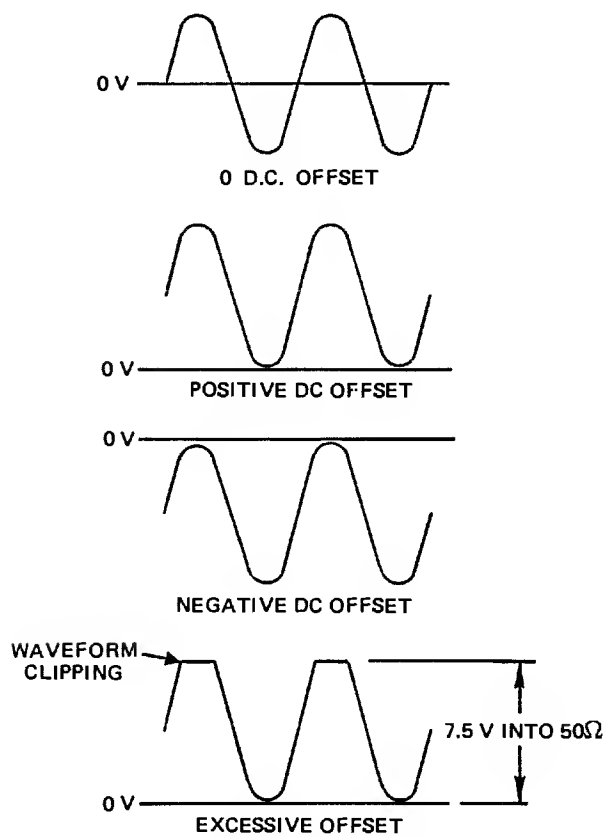

Figure 2-2 - DC Offset Control
7. Select the polarity of dc offset desired using the DC OFFSET switch, and set the amount of offset using the MIN/MAX control. If an excessive amount of dc offset is used, waveform clipping may be observed. The sum of peak waveform voltage and the dc offset cannot exceed the maximum rated output of the generator. For example, on the 0 dB attenuator setting the maximum output is 15 V peak-to-peak or 7.5 V peak above and below zero volts. Offset plus peak voltage cannot exceed 7.5 V. See Figure 2-2.